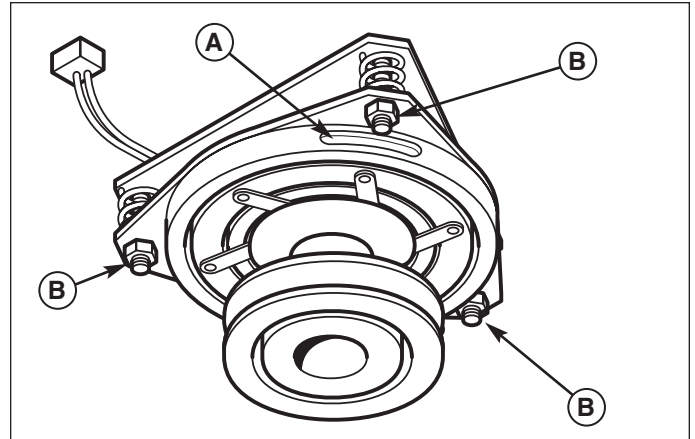

Figure 34. PTO Clutch Adjustment
2. See Figure 34. Note the position of the 3 adjustment windows (A) in the side of the brake plate and the nylock adjustment nuts (B).